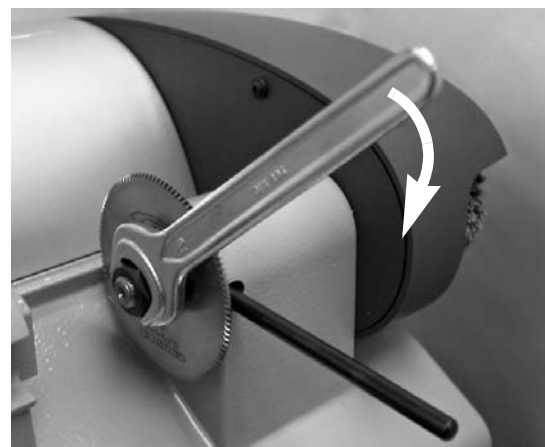

Fig. 27
- 3) Place the locking pin into the groove in the base and the special hole in the cutting tool shaft (fig.27).